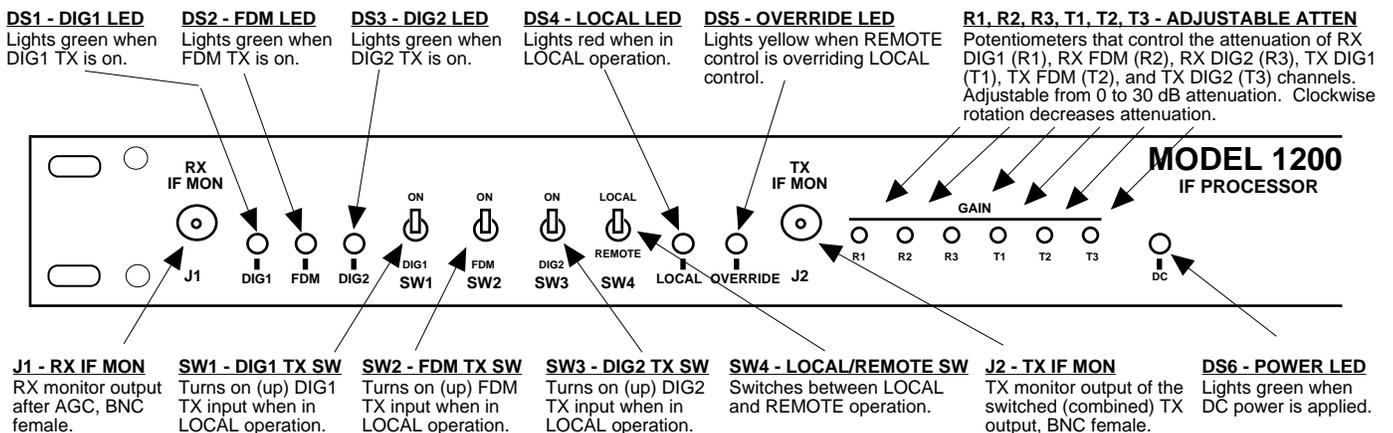

FIGURE 2.3 1200-05 Front Panel Controls and Indicators
- 4.) Be sure the DC (power) LED, DS6, is on (Figure 2.3).
- 5.) Set SW4 for REMOTE or LOCAL operation (Figure 2.3).
- 6.) Choose the desired TX path(s) either remotely (J105, Figure 2.2) or locally using the front-panel switches (SW1 - SW3, Figure 2.3) and check for proper signal(s) at TX IF MON (J2, Figure 2.3) or TX IF OUT (J104, Figure 2.2) and that the appropriate LED(s) (DS1 - DS3, Figure 2.3) is lit.